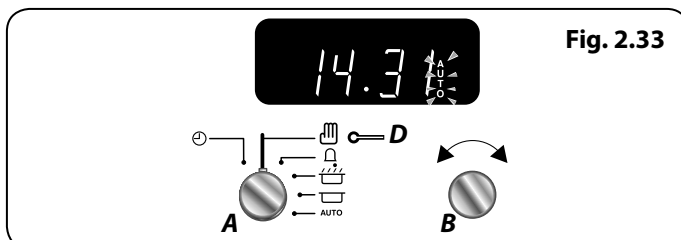

Fig. 2.33
6. When the program starts the Multifunction Oven, the 'Cooking' symbol will appear on the display. Once the specified time has elapsed it will emit an alarm and the Multifunction Oven will stop working. The 'Cooking' symbol on the display will disappear and the word 'AUTO' will flash (**Fig. 2.33**).